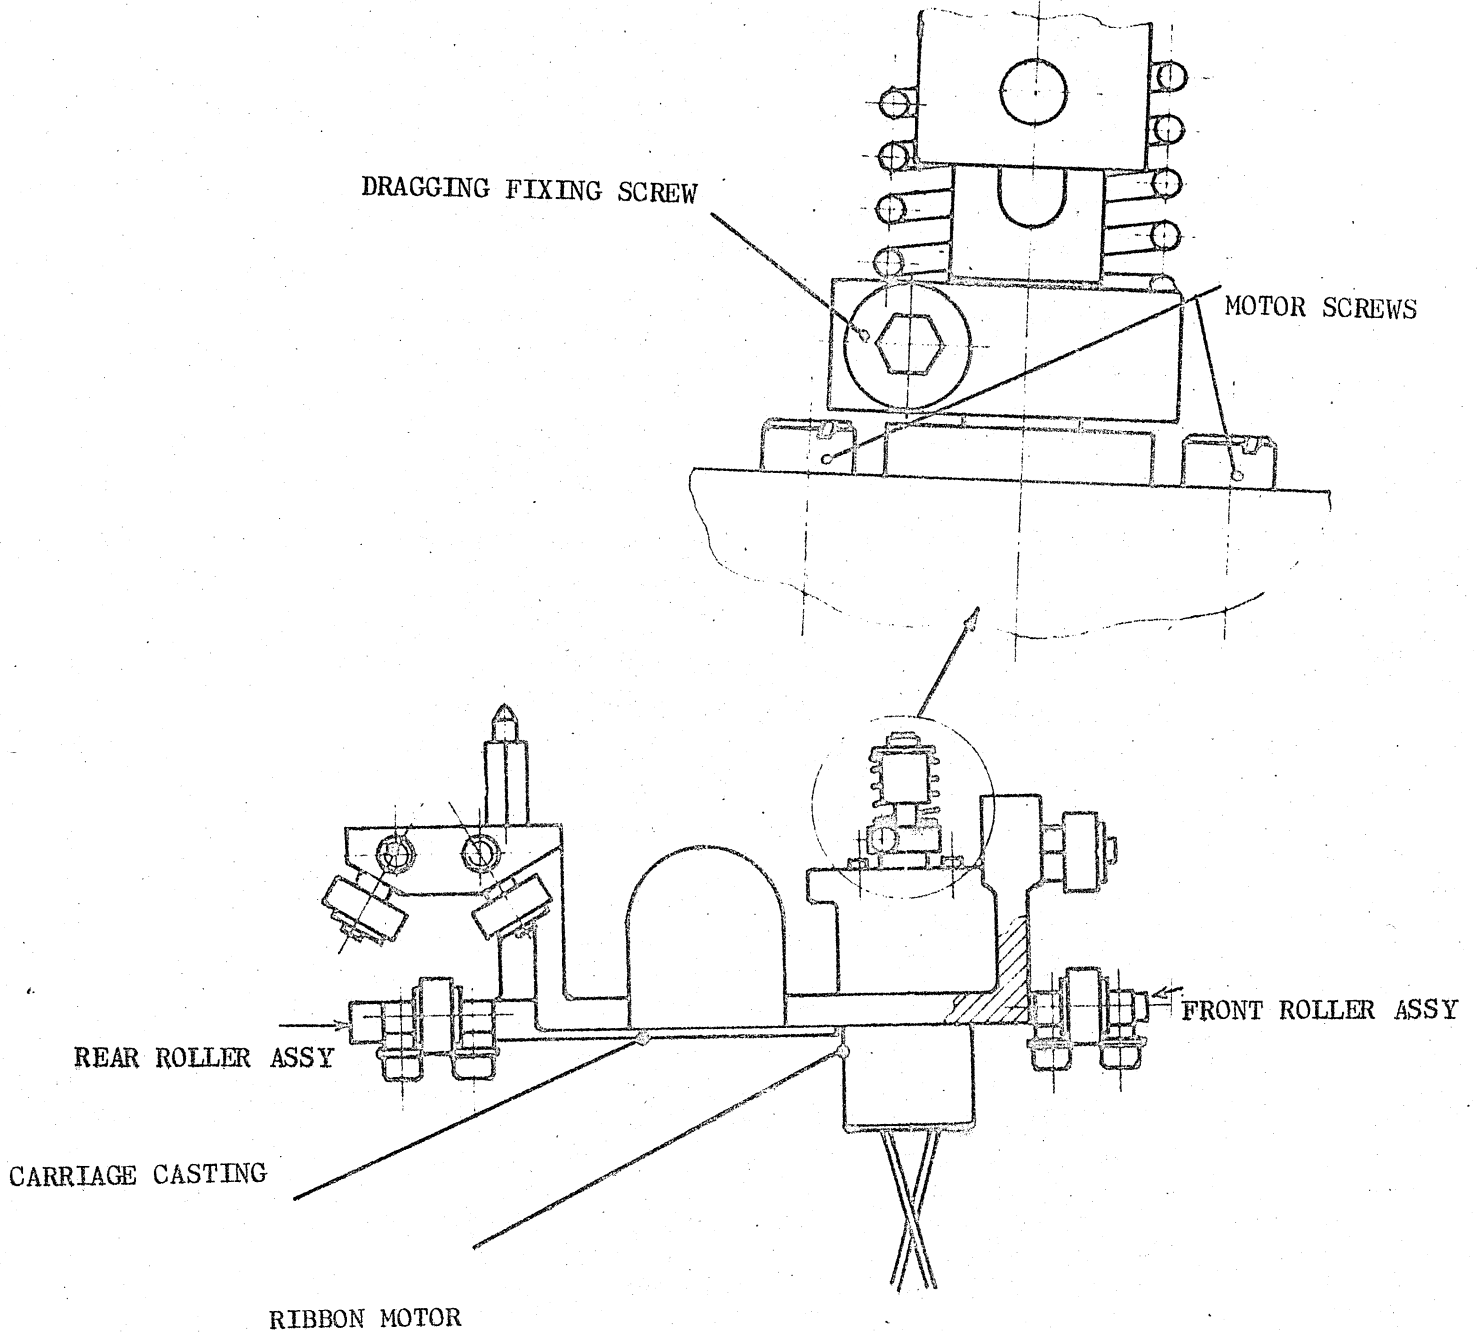

FIG. 8.19
- . Loosen the allen screw (by using a 1 mm/1.5 mm wrench) fixing the cartridge drive dragging (See fig. 8.19).
The carriage mounts 3 roller assemblies, one on the front side and two on the rear side. See fig. 8.19.